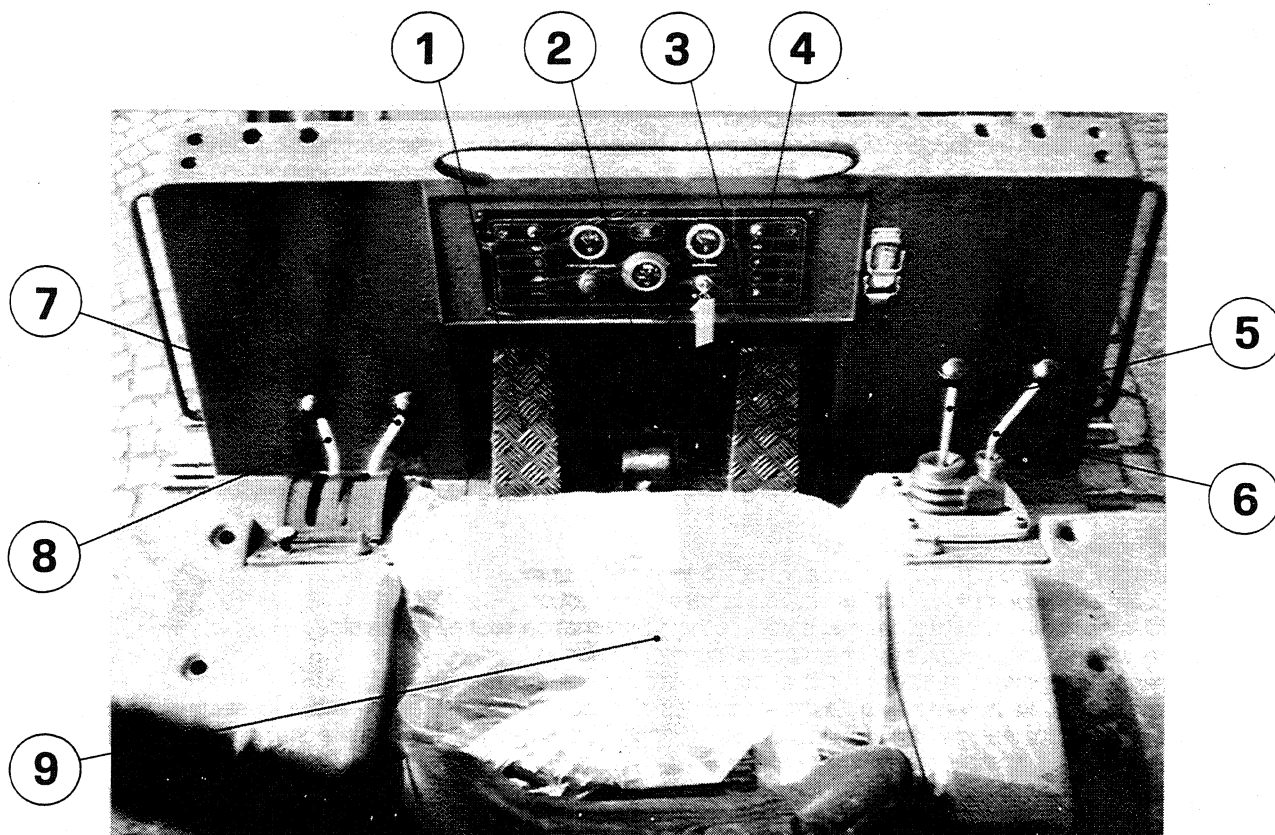
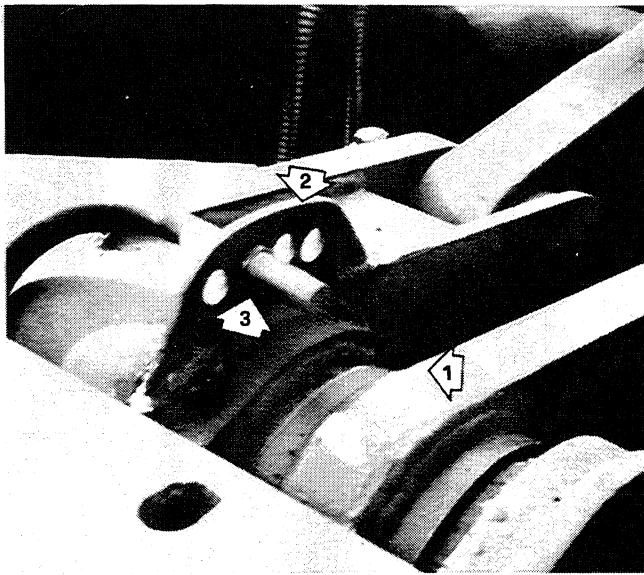
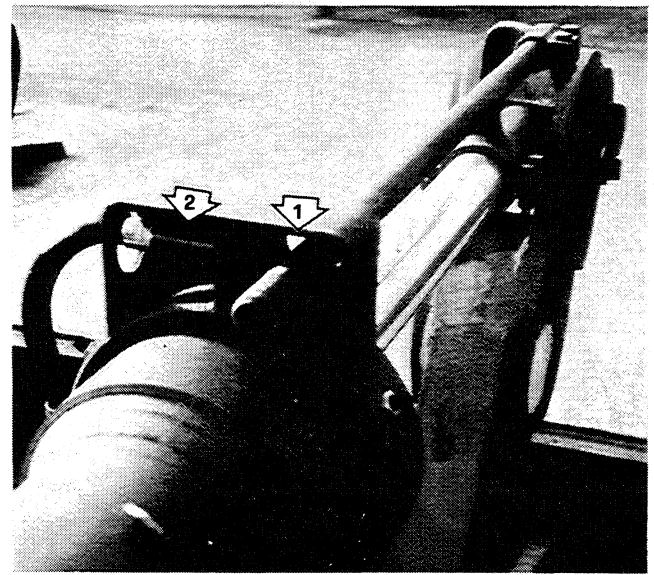

Fig. 3
Fig. 8
Fig. 9
Actuating this button will engage and disengage the proximity switches (Pos. 3 – fig. 8 and Pos. 2 – fig. 9). Their operation is monitored by the warning light (Pos. 15 – fig. 3) on dashboard.
The proximity switches (Pos. 3 – fig. 8 and Pos. 2 – fig. 9) are fitted in order to:
- 1) automatically interrupt boom lift when the preset height is reached. This height is adjustable by placing the proximity switches in the different openings (Pos. 2 – fig. 8).
- 2) automatically interrupt bucket closing as soon as bucket edge is parallel to ground level. This will be achieved as soon as the plates (Pos. 1 – fig. 8 and Pos. 1 – fig. 9) will meet the proximity switches and so enter their magnetic field.